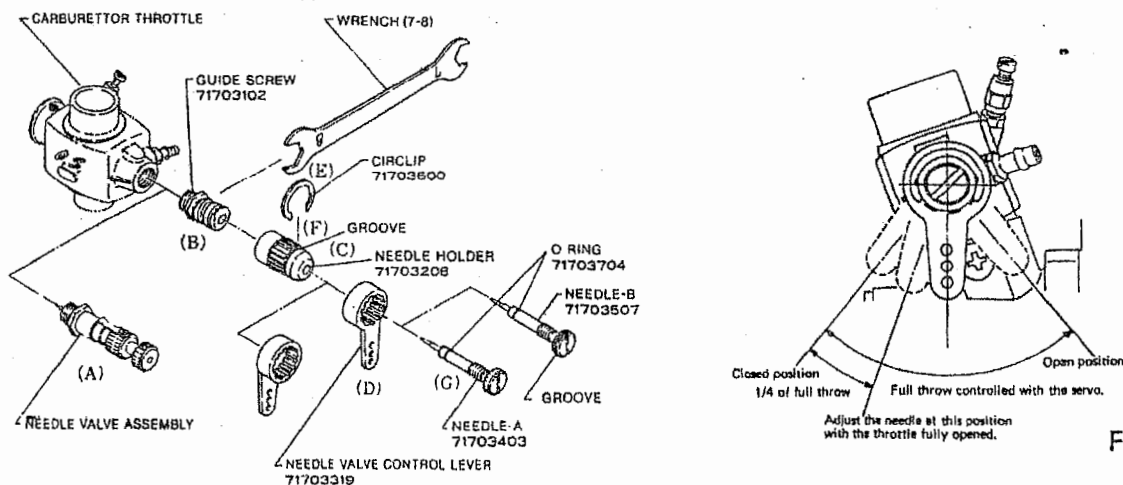

Fig. 2
2. Insert the guide screw (B) in place of the original assembly and tighten it with the wrench.
3. Carefully engage the needle holder (C) with the guide screw (B). Note: do not force the needle-holder onto the guide screw; when properly engaged, the needle-holder is easily rotated with the fingers.
4. Rotate the needle-holder until it is fully home (approx. 2 turns - if necessary unscrew the needle (G) to allow the needle-holder to reach the fully closed position).
5. Now turn the needle holder (C) counter-clockwise one-quarter turn. Holding the needle-holder in this position, push the needle-valve control lever (D) onto the needle-holder (C) with the lever vertical or approximately at the mid-point of full servo control movement (See Fig. 2).
- \* Fill the fuel tank and operate the servo to bring the needle-valve control lever approximately one-quarter open from the fully closed (lean) position. (See Fig. 2).